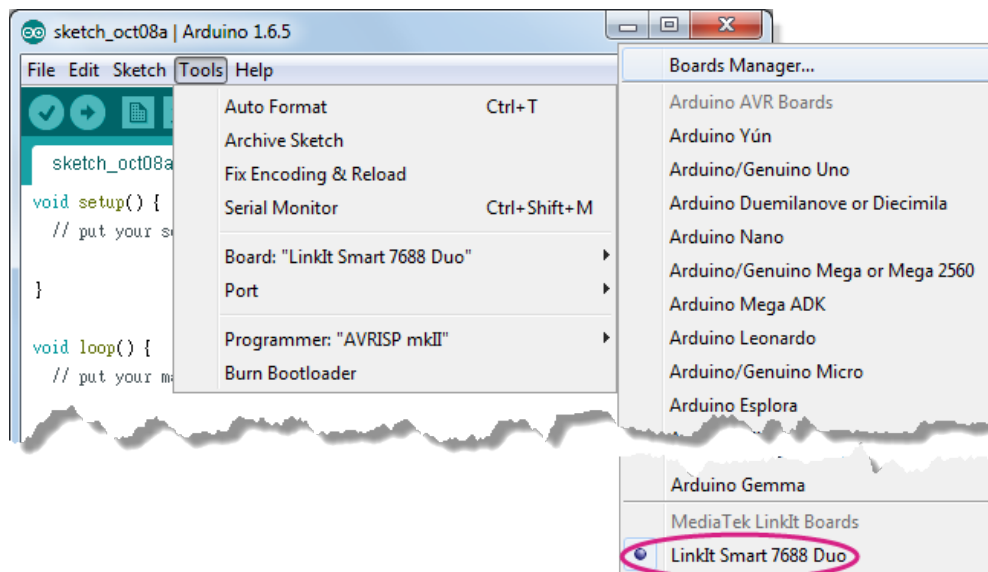

Figure 49 LinkIt Smart 7688 Duo installed on Arduino IDE
7) You now have the LinkIt Smart 7688 Duo installed on Arduino IDE as show in Figure 49.